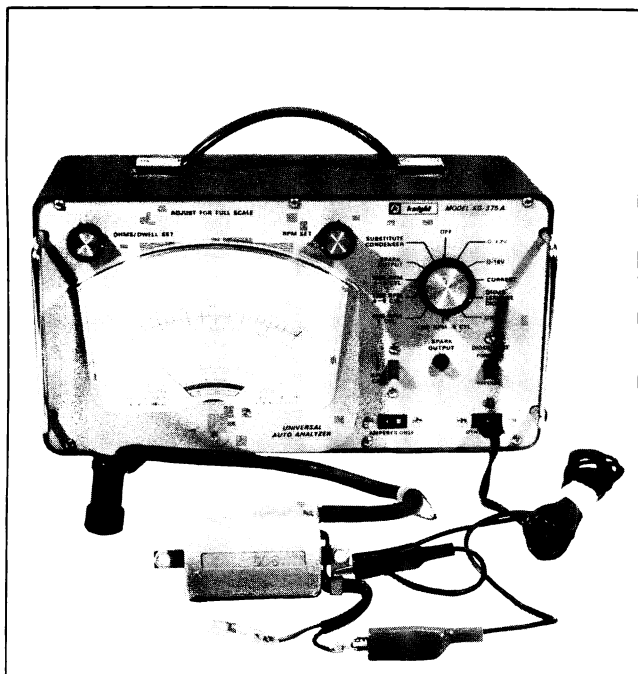

Fig. 20-27 A typical ohmmeter used to check coil resistance between windings and base
**Field.** If the field is a permanent magnet type there is no regular way to test its magnetic strength. Some mechanics place the magnet on the side of a metal cabinet; if it slides off or falls, it is too weak. When alternator output is low and all other components are checked out as OK, then replacement is necessary—after determining why the magnet lost its magnetism. Banging around, hammering on, overheating, and strong electric currents can all damage a magnet. Coil types should be checked for correct resistance and shorts with an ohmmeter. Infinite resistance (full scale) should be the reading between the winding and its base (Fig. 20-27). Slip rings should be clean and the brush lengths should fall within manual specifications.